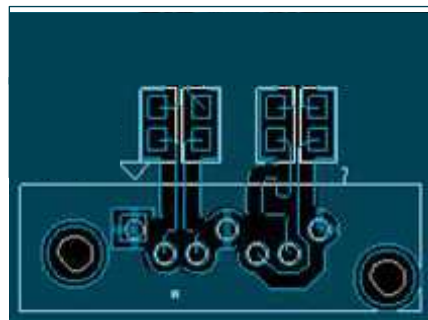

Figure 8-91. SATA Routing
2. Use the method pictured below in Figure 8-91 and Figure 8-92 to route to the SATA connector. This method results in lines that are still length matched, and still on just one single layer.